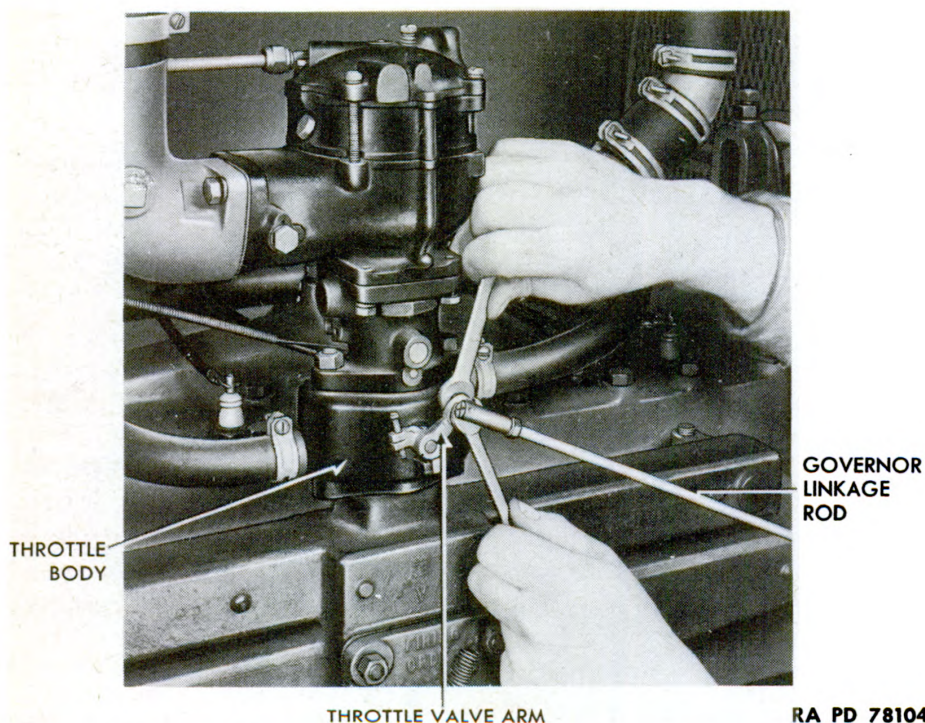

Figure 42 – Governor Linkage Rod Removal
(2) The linkage, or rod, connecting the governor arm to the throttle body valve arm must be of the correct length, and the throttle arm must be set so that it is at right angles to the rod when it is in the middle of its travel, thus giving free movement from an "OPEN" to a "CLOSED" position. Also, the throttle and joints of the rod must be absolutely free during the full travel of the parts. The rod is adjustable as to length and must be adjusted so that, with unit at rest and governor and throttle in their normal "WIDE-OPEN" positions, it will hold the throttle arm about $\frac{1}{64}$ inch away from its "WIDE-OPEN" position. There will usually be some tension on the spring when the unit is at rest. If there is no tension, when checking for length of rod as outlined above, be sure the governor arm is all the way back in the direction the spring would pull it.
a. Description. The throttle body (fig. 42), mounted between the intake manifold and the carburetor, houses the throttle valve
c. Removal (fig. 42).
- (1) Drain cooling system to level below cylinder head.
- (2) Disconnect governor linkage rod at throttle valve arm (fig. 42).
- (3) Remove carburetor (par. 65 c).
- (4) Loosen the hose clamps securing hoses to throttle body and remove hoses.
- (5) Lift throttle body from manifold.
d. Installation (fig. 42). Procedure for installing throttle body is the reverse of subparagraph c, above. Carefully inspect gasket before installing.